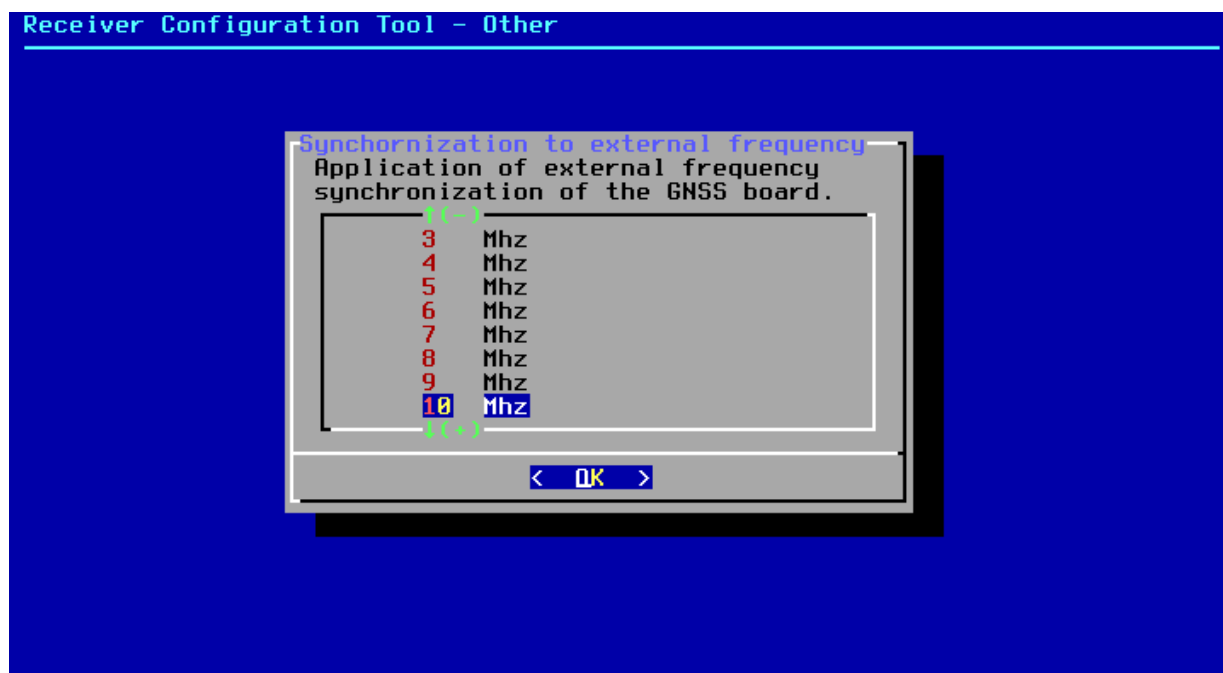

Figure 31: Reference frequency selection.
5. select the value of the frequency of connected signal: 3-20MHz (fig. 31),